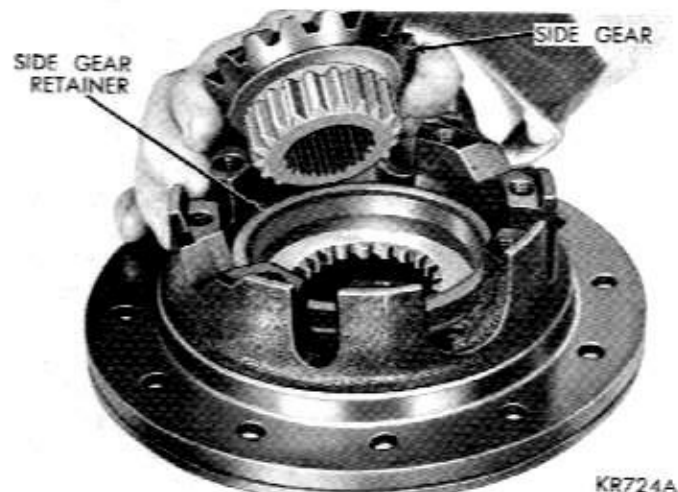
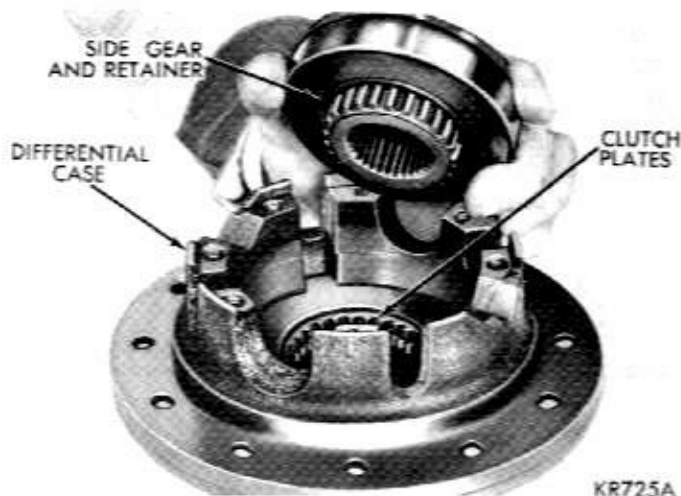
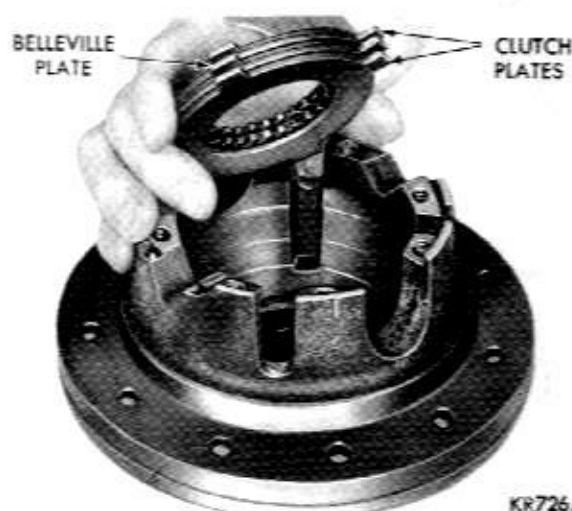

Fig. 29—Removing or Installing Side Gear from Differential Case
Fig. 30—Removing or Installing Side Gear Retainer
Fig. 31—Removing or Installing Clutch Plates and Discs
(5) Remove remaining side gear (Fig. 29), side gear retainer (Fig. 30), and clutch plates (Fig. 31).